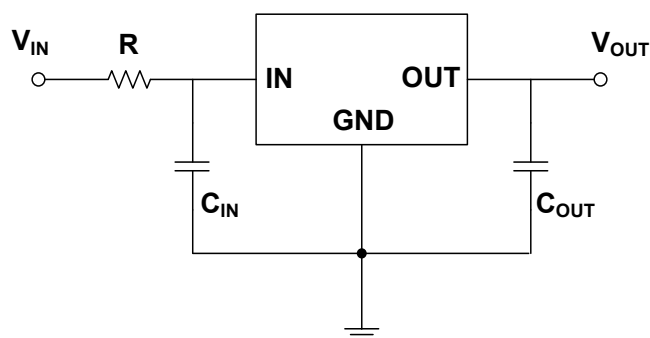

Figure 9-2. Resistance is used at IN
2. Place a resistor with appropriate resistance in series before the IN of the voltage regulator, which can help the voltage regulator share part of the energy in case of surge. The resistance value of the resistance should not be too large. The specific resistance value depends on the application of the circuit. Generally, the resistance value of this resistance does not exceed 20Ω . As shown in Figure 9-2.
For the CJ78M15, it is recommended that the input voltage should not exceed 17V and the peak voltage should not exceed 35V. **When the input voltage is greater than 17V, or the peak voltage that may be greater than 35V may appear in the practical circuit, it is recommended to adopt the circuit layout shown in Figure 9-2 in the circuit design.**
CJ78M15 can obtain better transient response with the help of output capacitance. However, if the output capacitor is relatively large, the surge current generated by the charging of the output capacitor will also be large at the moment of power on of the regulator, and the large surge current passing through the regulator may damage the internal circuit. When the output capacitance is large, adopting the circuit design shown in Figure 9-2 will reduce the possibility of damage to the device due to large surge current to a certain extent. It is recommended that the selection of output capacitor should not exceed 20 μ F. **If the selection of output capacitor exceeds 20 μ F, it is recommended to adopt the circuit design in Figure 9-2 to reduce the possibility of accidental failure of the device due to large surge current during power on.**
It is recommended that the output capacitor (C_{OUT}) should not exceed 20 μ F. When the output capacitor (C_{OUT}) exceeds 20 μ F, it is recommended to use the circuit layout shown in Figure 9-2. See *Large Output Capacitance* for more details.